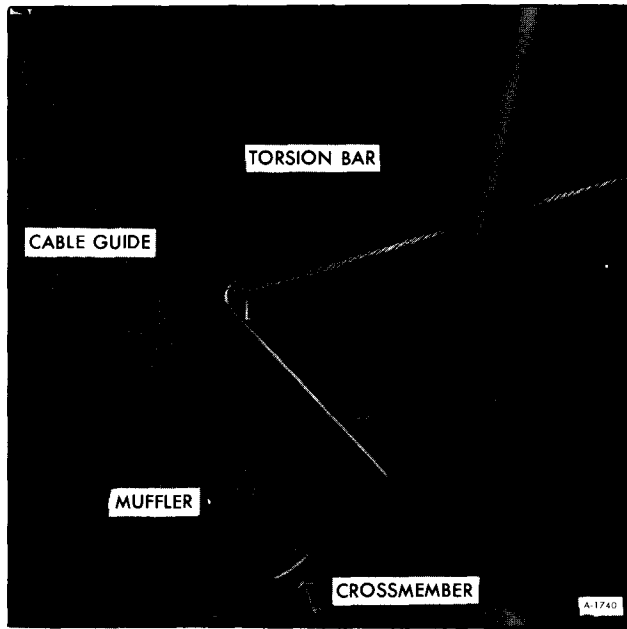

Figure 26—Cable Guide on Crossmember
4. Disconnect cable from guide on frame crossmember (figure 26).